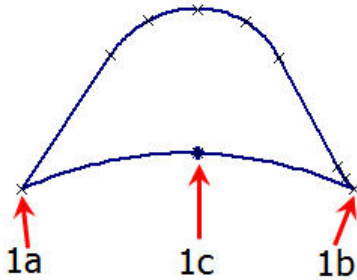

Figure 5. Draw hemline curve
22. Choose Arc (AR) and SNAP to point 1a, SNAP to point 1b, and SNAP to point 1c (Fig. 5).